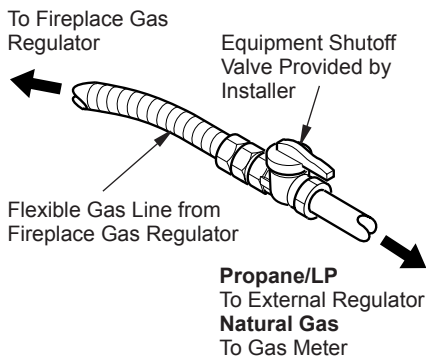

Figure 21 - Attaching Flexible Gas Lines Together
NOTICE: Most building codes do not permit concealed gas connections. A flexible gas line is provided to allow accessibility from the fireplace (see Figure 21). The flexible gas supply line connection to the equipment shutoff valve should be accessible.
5. Attach the flexible gas line to gas supply (see Figure 21). Check tightness of flexible gas line attached to gas regulator of fireplace (see Figure 21).